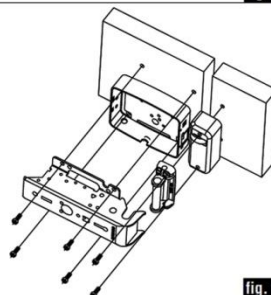

fig. 15
- 7) Replacing an electric rim lock (old model with a reloading pin).** The lock is totally interchangeable with the rim locks fitted with a reloading pin (fig. 15).